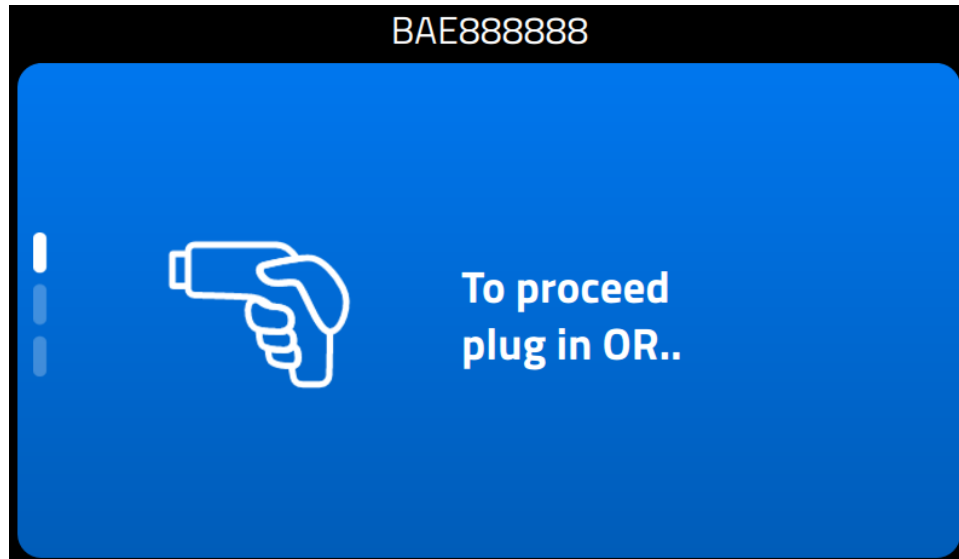

Fig. 53 – Idle screen plugin request
- There is a total of (5) five idle pages in the rotating cycle as shown below (Fig. 53 – 57)